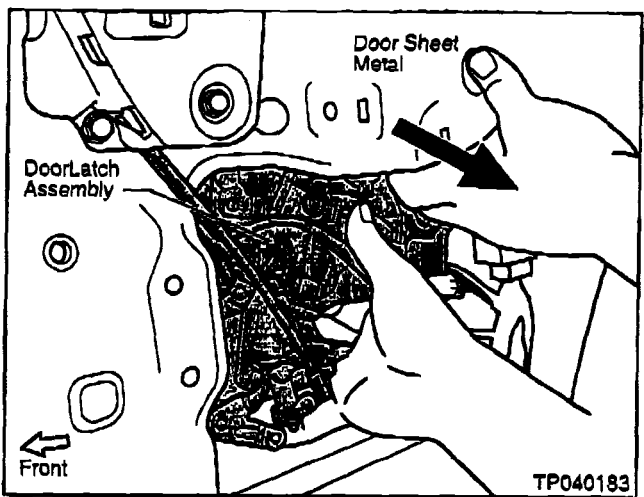

Figure 17
- Position the Door Latch Assembly in the Sliding Door (see Figure 17).
- If needed, pull out on the Door Sheet Metal (see Figure 17) to fit the Latch Assembly back into the door.